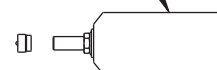

Fig. 105 — Distributor and Cap
1. Remove plastic end cap by using an electric heat gun or a torch (see Fig. 105).